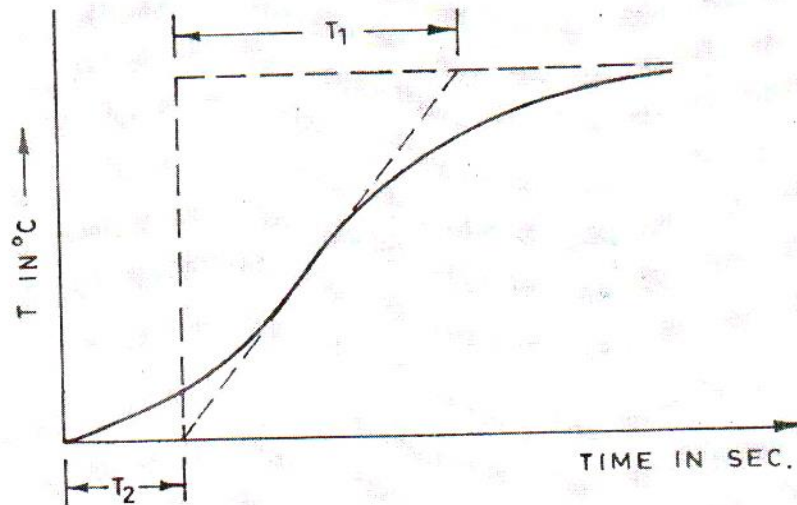

FIG. 10. OPEN LOOP RESPONSE OF THE OVEN
- (1) Keep Run/Wait switch to 'WAIT' S_2 , to Set/Meas. Switch to "SET" and open 'FEEDBACK' terminals, (refer panel drawing).
- (2) Connect P output to the actuator input and switch ON the unit.
- (3) Set P potentiometer to 0.5 which gives $K_p=10$. Adjust reference potentiometer to read 5.0 on the DVM. This provides an input of 0.5 V to the driver.
- (4) Put Set/Meas. Switch to the 'MEASURE' position and note down the room temperature.
- (5) Put Run/Wai switch to 'RUN' position and note temperature reading every 15 sec, till be temperature becomes almost constant.
- (6) Plot temperature-time curve on a graph paper. Referring to Fig. 10, calculate T_1 and T_2 and hence write the transfer function of the oven including its driver as